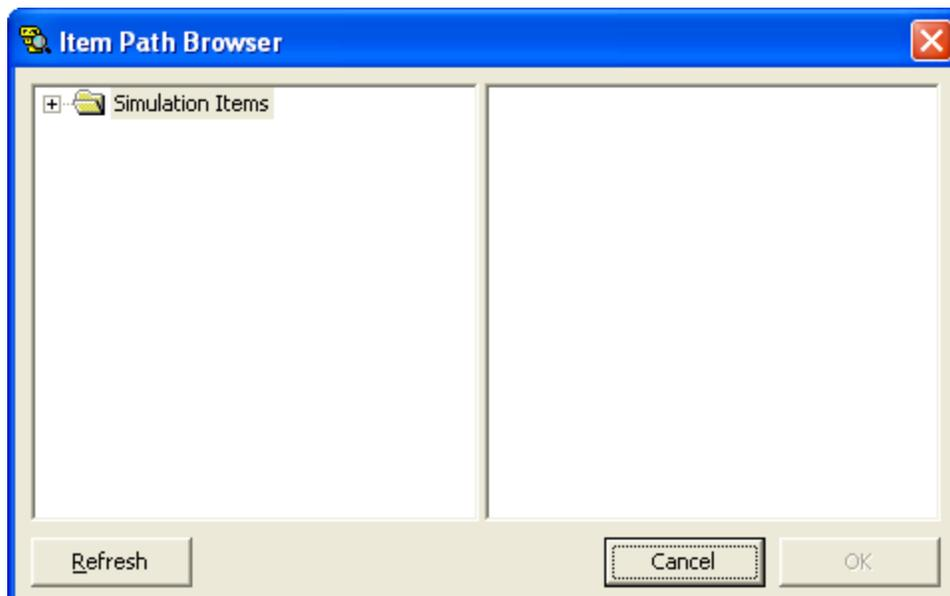

Figure 28 – Item Path Browser
- The **Item Path Browser** (Figure 28) is displayed.